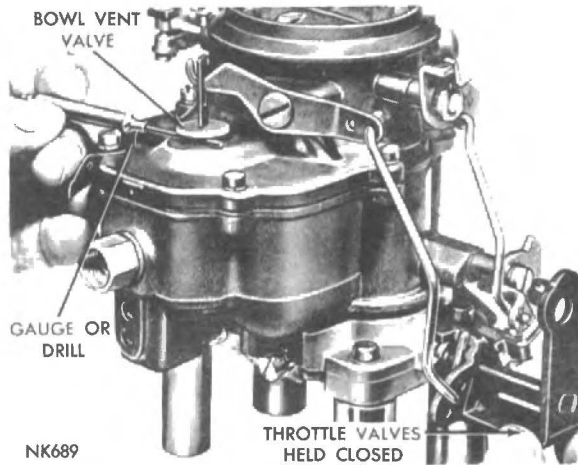

Fig. 11 Measuring Bowl Vent Opening
(1) Back off the idle speed adjusting screw. Open the choke valve so that the fast idle cam allows the throttle valves to be completely seated in the bores.
(2) Be sure the pump operating rod is in the medium stroke hole in the throttle lever, and that the bowl vent clip on the pump stem is in the centre notch.
(3) Close the throttle valves tightly. It should be just possible to insert a 1/16 inch drill between the bowl vent and its seat, as shown in (Fig. 11).